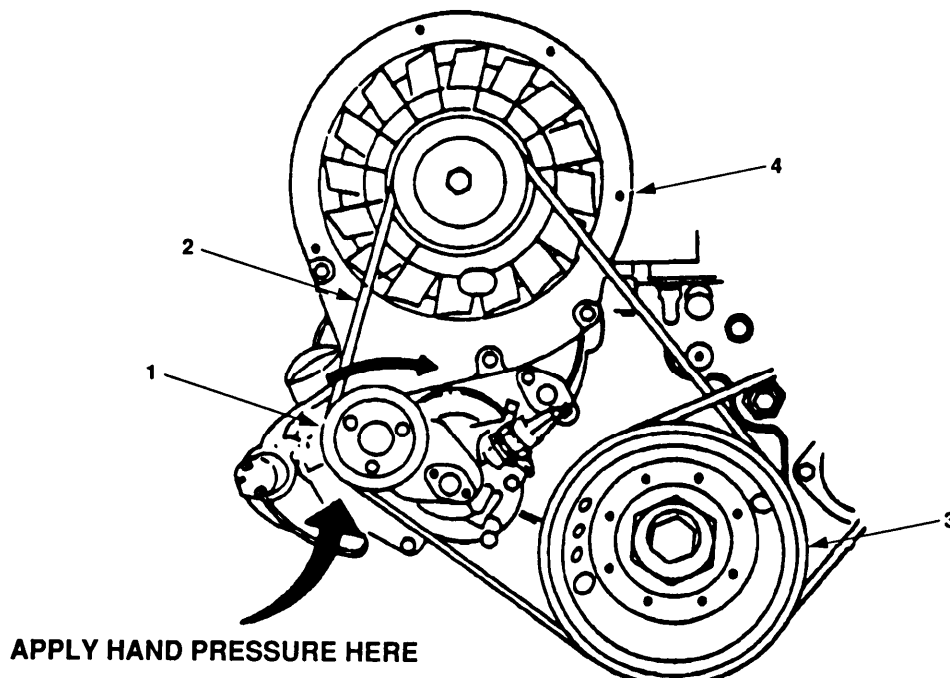

Figure 4-12. Cooling Fan Belt Maintenance.
- a. Apply pressure to idler pulley (figure 4-12, 1) and push upward.
- b. Remove V-belt (2) while holding idler pulley (1).
- c. Slowly release pressure from idler pulley (1).